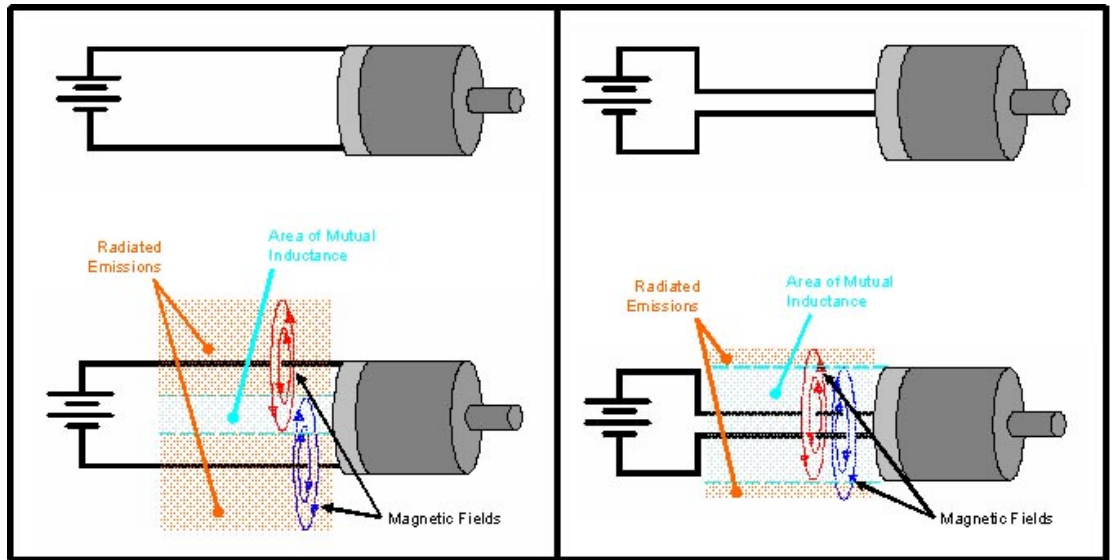

Figure 9. Mutual inductance cancels noise. To maximize mutual inductance, loop area of the power leads should be minimized.
- i. From an EMC point of view, the closer the leads are to each other, the smaller the loop area is between the leads and the more mutual inductance or cancellation of noise occurs (Figure 9).